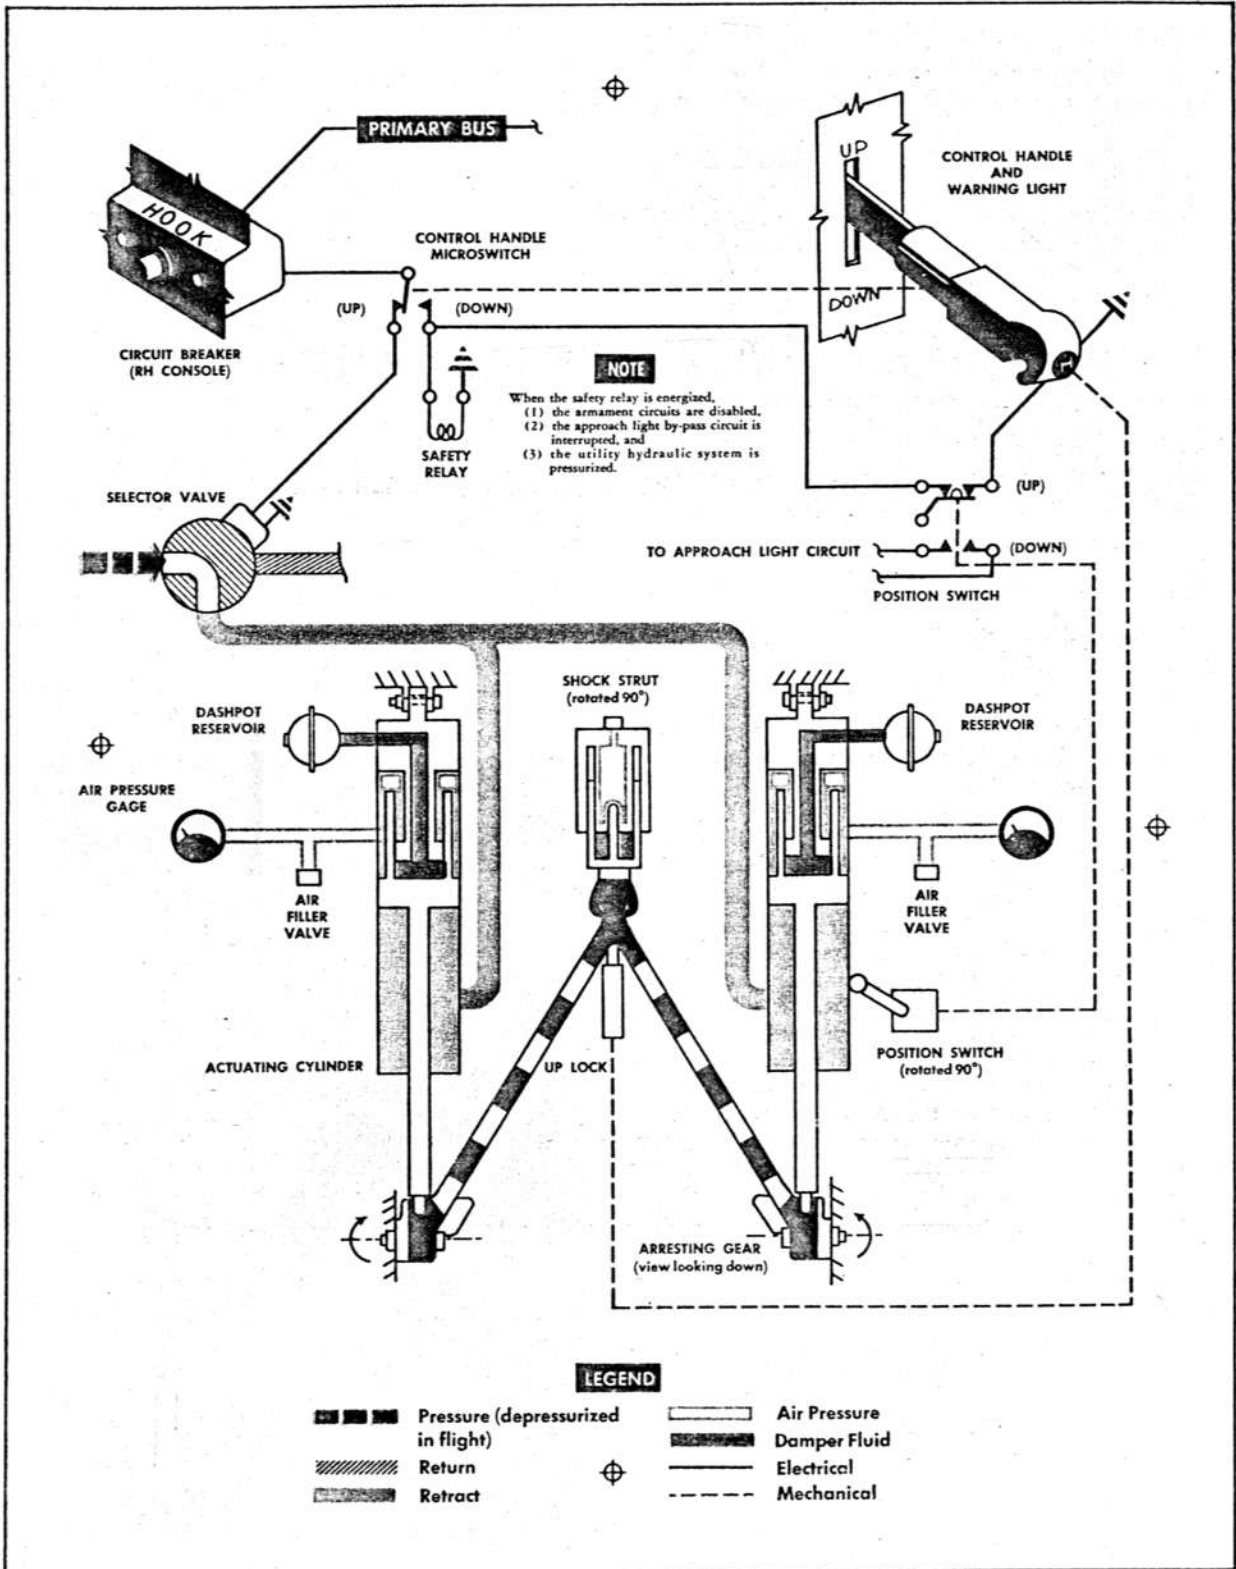

Figure 1-32. Arresting Gear System Schematic
**GENERAL.** (See figure 1-32.) The arresting gear is locked in the retracted position by a mechanical up lock mechanism. The gear is extended by its own weight, aided by air pressure acting against the extend side of the two arresting gear actuating cylinders. The actuating cylinders also have a dashpot which dampens any bouncing action of the gear after extension or during arrested landings. The dashpot is located on the extend side of the actuating cylinder and uses hydraulic fluid stored in its own reservoir. The arresting gear is retracted by hydraulic pressure from the utility hydraulic system. As the gear is retracted, it engages the up lock linkage. An air-oil shock strut is installed in the airplane to absorb the impact loads of the gear during arrested landings.